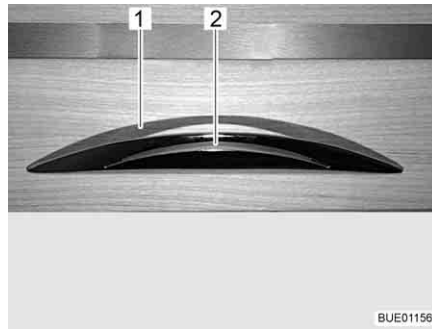

Fig. 58 Furniture flap with release handle
- Press the release handle (Fig. 58,2) and hold it down.
- Pull the release handle (Fig. 58,1) until the furniture flap is open.